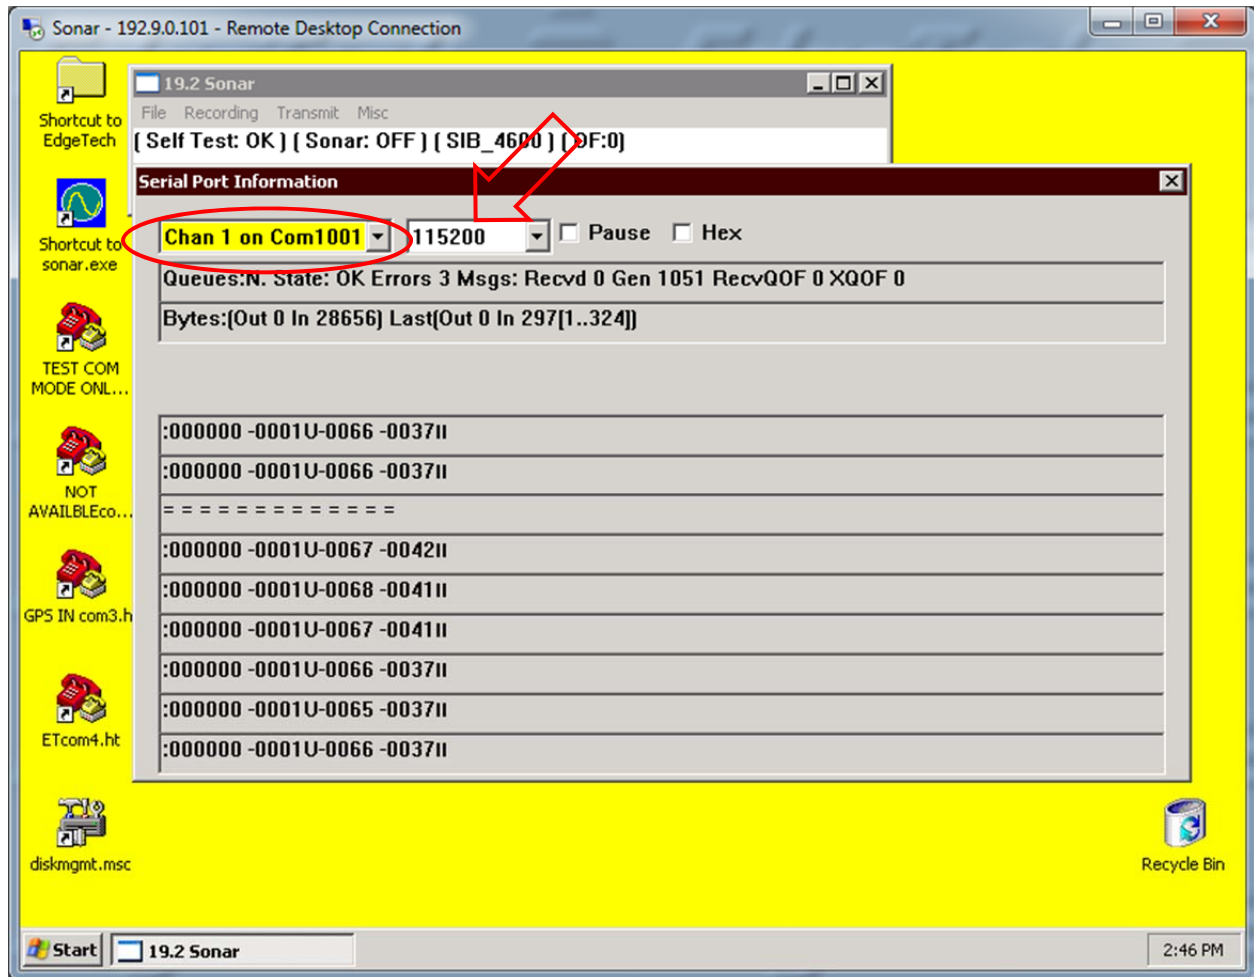

Figure 12: Serial Port Information Window
4. Check each COM port in the drop down menu to ensure data is coming through for each device and in the correct format (Figure 12).
**Note:** The GPS and MRU are interchangeable on COM1 and COM2 as long as the appropriate baud rate is set in the drop down menu next to the channel assignment in the Serial Port Information Window (Figure 12, red arrow).